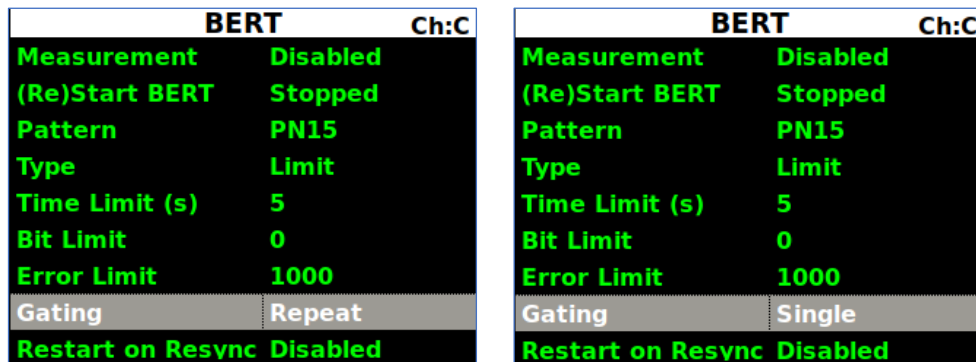

Figure 140: BERT, Gating
- Gating –Selects the action that occurs when the current measurement completes; this can be to stop, or to run a new measurement, as shown in Figure 140